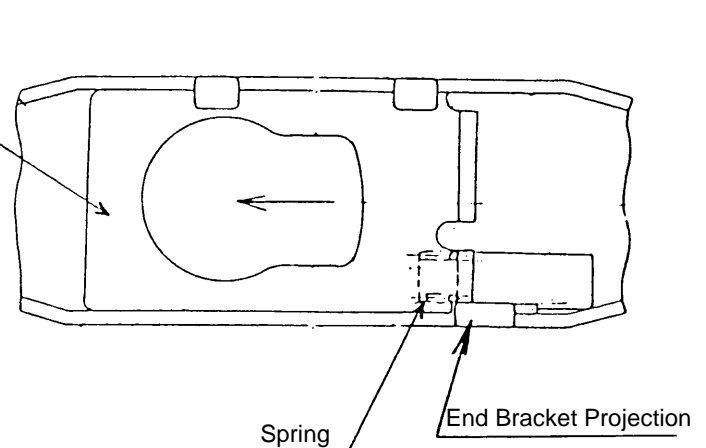

Fig. 17
- (b) Allow the Lock Plate (58) to move in the direction indicated by the arrow mark in Fig. 17 until it can be separated from the projection of the End Bracket (41). When removing the Lock Plate (58), be very careful not to lose the Spring (57).